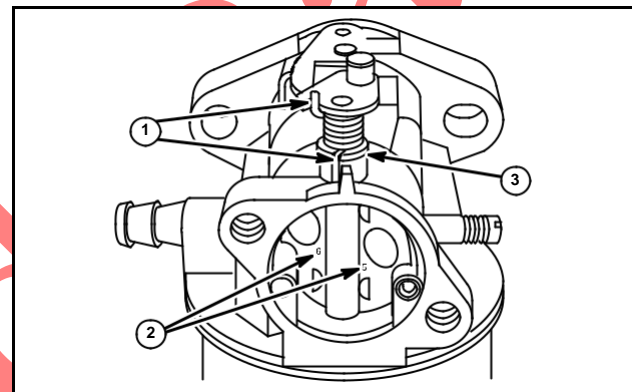

Fig. 111
1. Install choke shaft, return spring (1), and felt washer (3).
3. Insert choke plate so numbers will be visible when choke is closed, (2), Fig. 111.